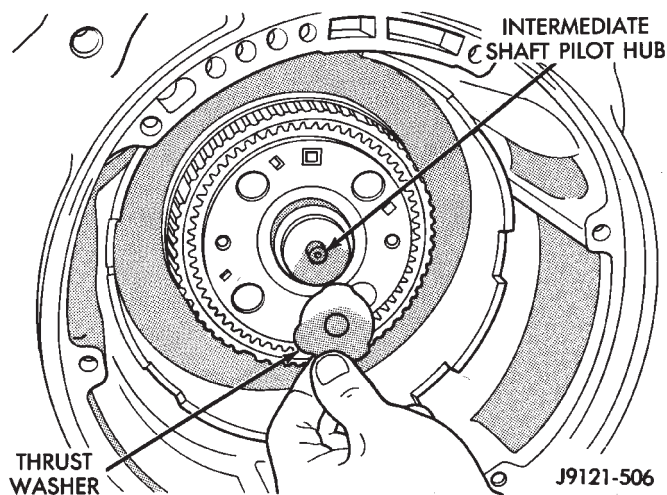

Fig. 26 Removing Intermediate Shaft Thrust Washer—46RH
(26) Remove intermediate shaft thrust washer. Triangular shaped washer will either be on shaft pilot hub or in rear clutch retainer (Fig. 26).